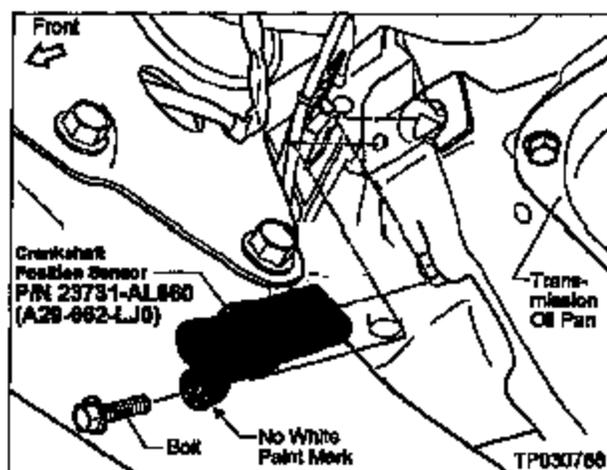

Figure 12
3. Locate the Crankshaft Position Sensor (see Figure 12).